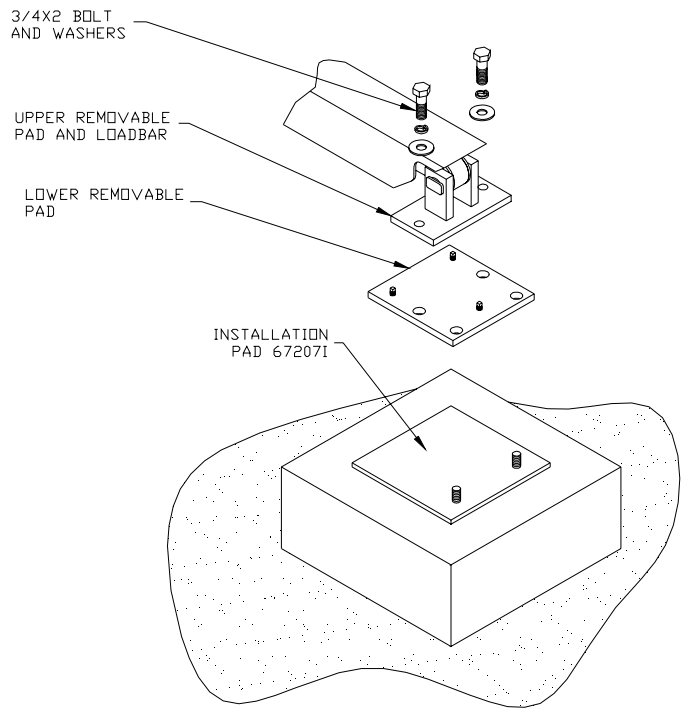

Figure 9 – Installation Pad Installation
4. Roughly locate the lower removable pads on the installation pad. Ensure the setscrews in the lower pad are facing up (to allow for adjustment). The outer holes of the lower pad will slide over the lugs on the installation pad (Figure 9).